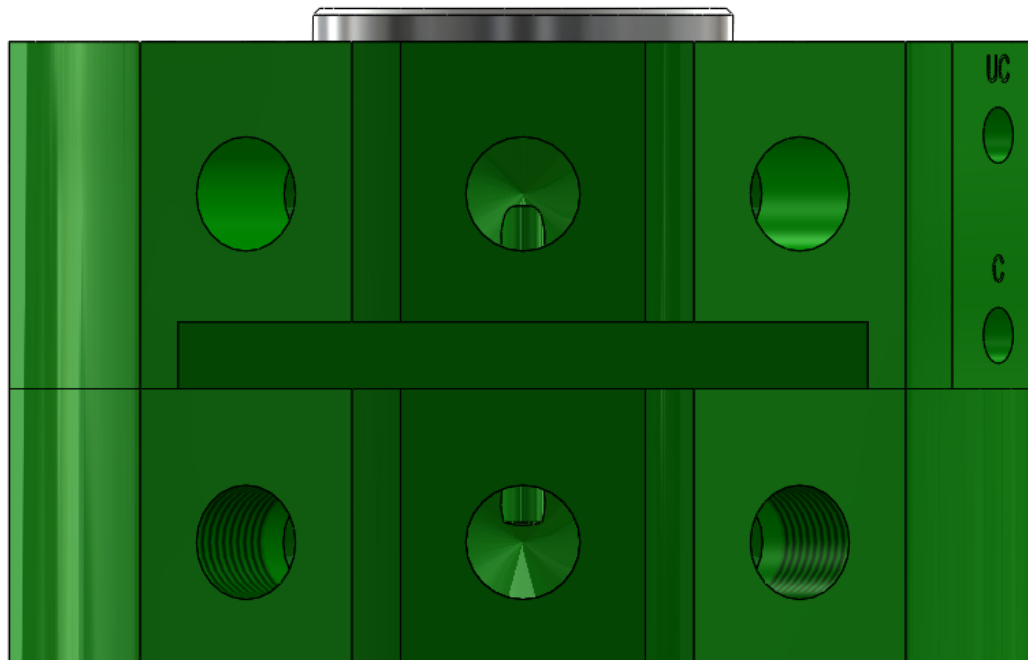

Figure 6.2-2. E50 Tool Changer – Docked Position
5. Stop the motion when the distance between the Robot Side interface surface and Tool Side interface surface are touching or as close as can reasonably be achieved. At this time, any electrical or fluid connections will be made through the use of available side modules. Note that when the interface surfaces of the Robot Side and Tool Side are in contact, the outer edge of the Sides should be touching (Figure 6.2-2).